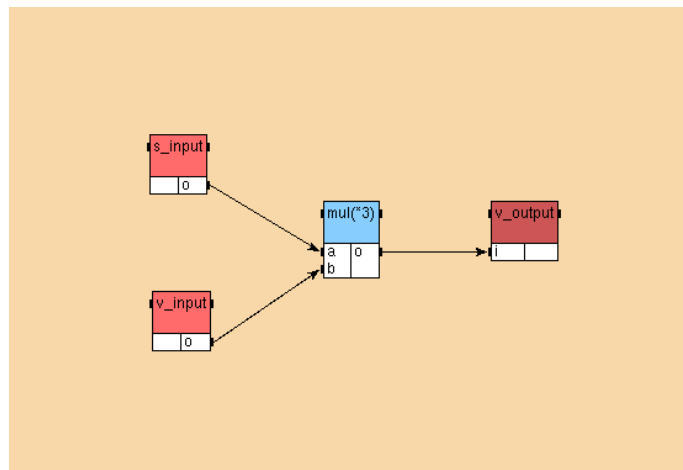

Figure 4.2: `AlgorithmMain1` of the **Example 4**
- create dependencies between the references, in order to obtain the main algorithm (cf. figure 4.2);